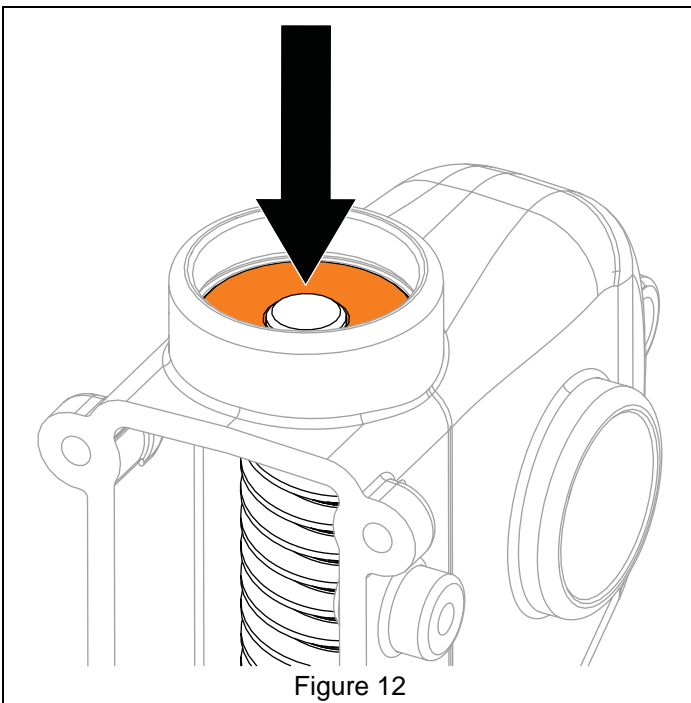

Figure 12
8. Reinstall flange bushing onto impeller shaft end. With a driver, strike bushing until positioned just below retaining ring groove. See Figure 12.